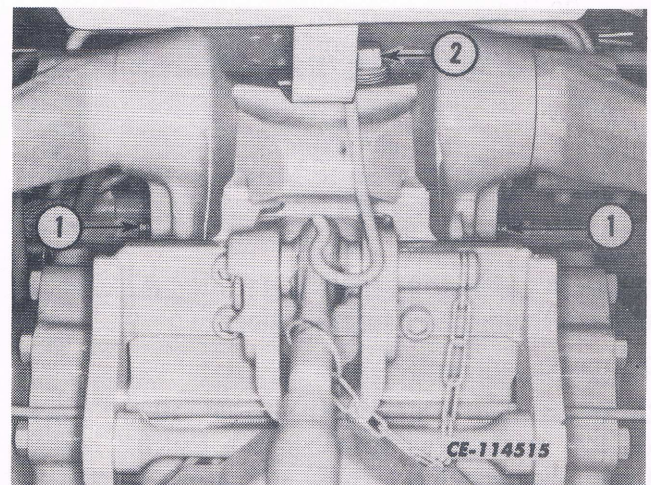

Fig. 13. Brake Bleeder Screws
4. Attach clear plastic tubes (PLT-700-5), to both bleed screws (1, Fig. 13) and insert the open ends into the hydraulic fluid filter hole (2).